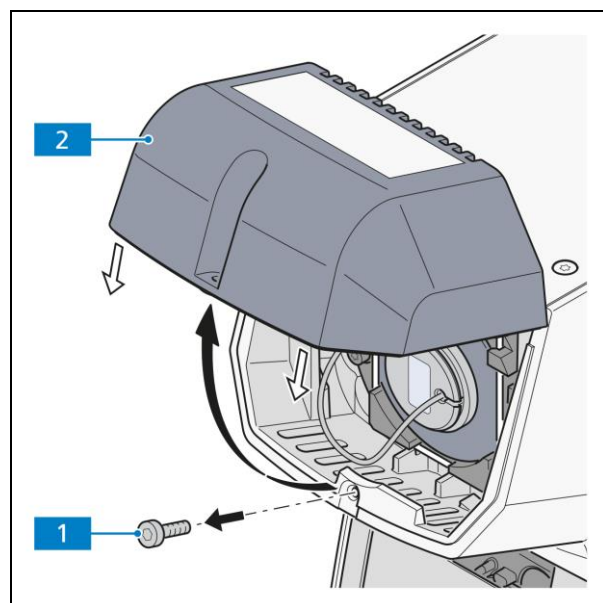

Fig. 3-20 Removing the cover
- Loosen the screw (Fig. 3-20/1) in the cover.
- Swing the cover (Fig. 3-20/2) slightly upwards and apply pressure from below to remove it from the stand.
- Insert the cover (Fig. 3-20/2) at a slant from below into the upper holding elements of the stand, swivel down and press into place.
- Tighten screw (Fig. 3-20/1).